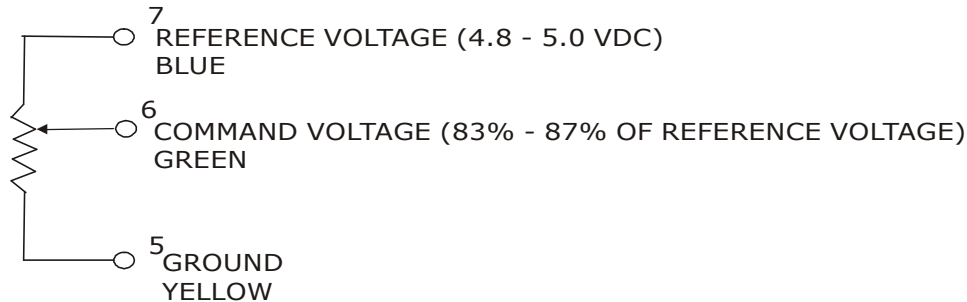
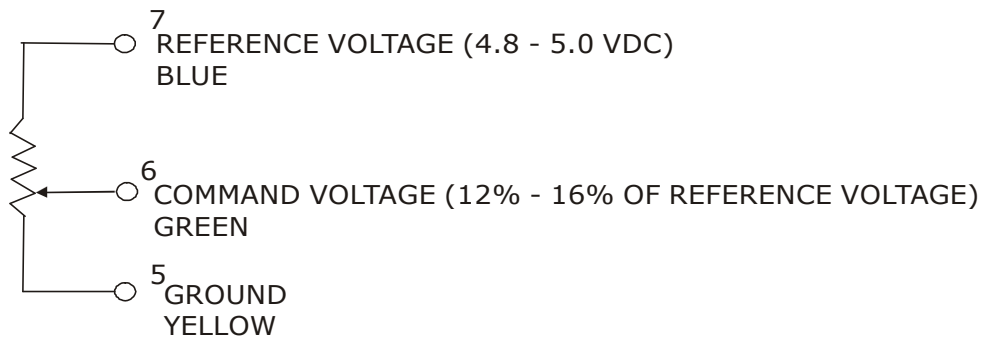

Figure 4: Control Head at Full Ahead (Right Hand)
Figure 5: Control Head at Full Astern (Right Hand)
6. The command voltage increases when moving the Control Head lever in the ahead direction and decreases when moving toward astern. See Figure 4: and Figure 5: